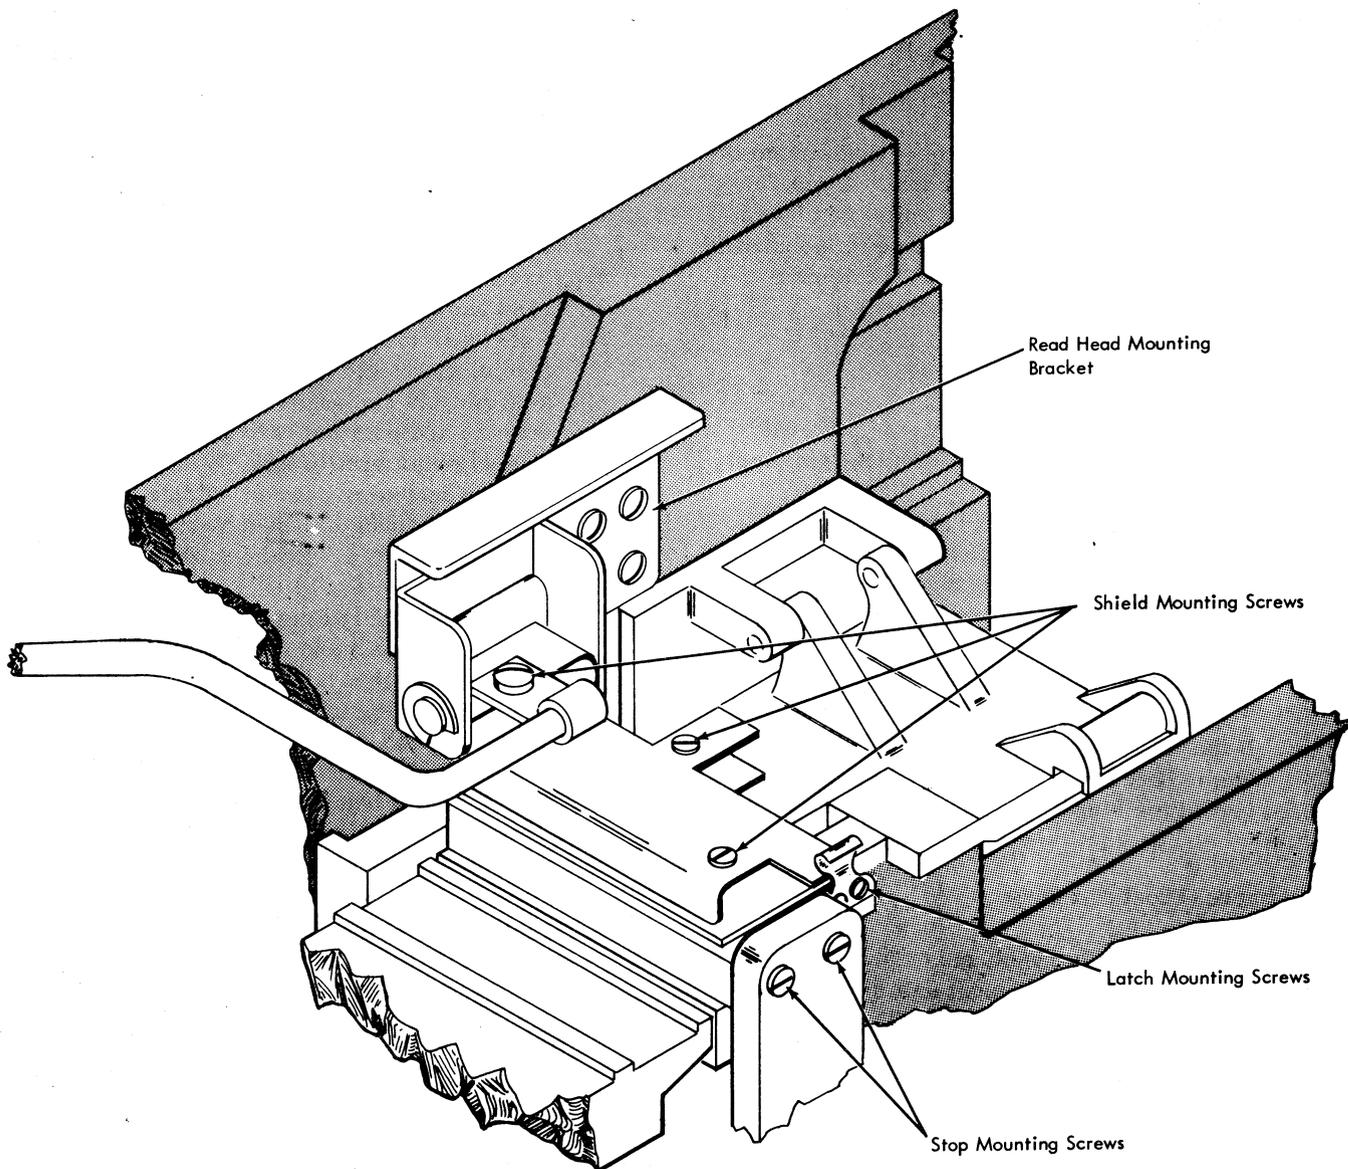

Figure 4-17. Front Mounted Read Head
1. Loosen four mounting bracket holding screws (Figure 4-17).
2. Loosen three shield mounting screws (Figure 4-17).
3. Loosen stop and latch spring mounting screws (Figure 4-17).